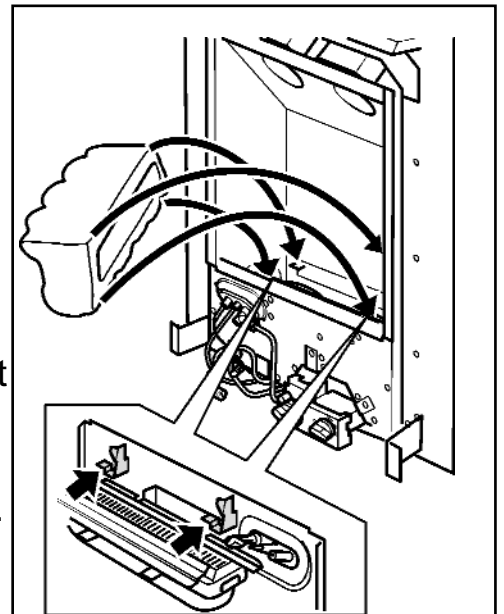

Figure 20. Ceramic coal base location
1. Fit the ceramic coal into the fire above the burner. The front of the ceramic coal should locate on the horizontal faces but behind the vertical faces of the two location brackets positioned at the front of the burner module. See figure 20.